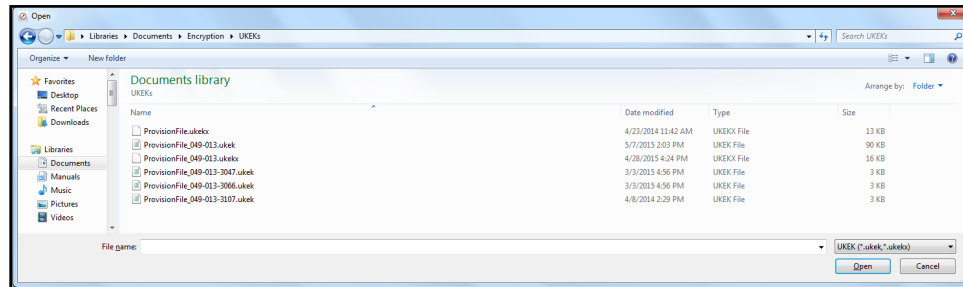

Figure 13-7: Symphony Manual Key Loader – Load UKEK - Browse Dialog
- Click **Browse**. A file Open dialog displays (Figure 13-7).